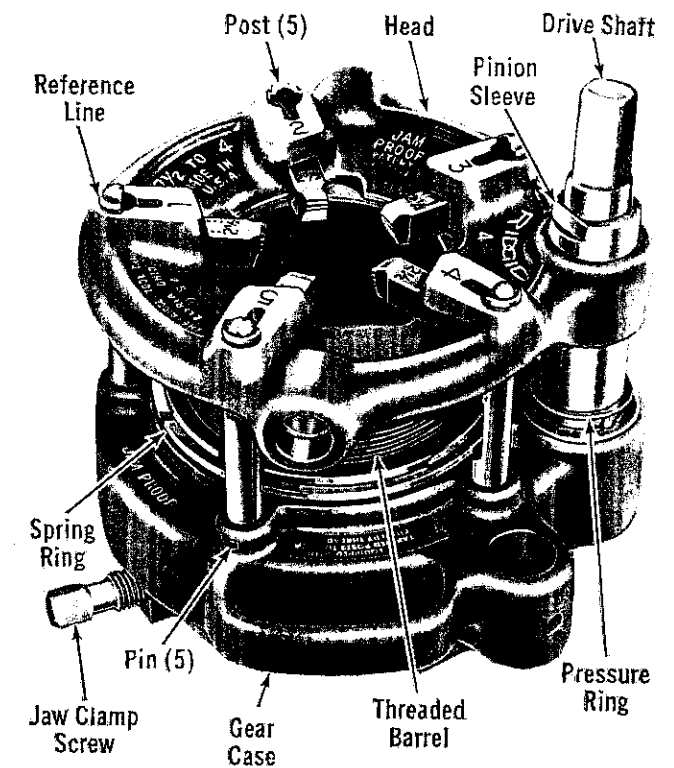

Figure 20. No. 4PJ Geared Threader with Drive Shaft Up.
6. 4PJ only - Release Foot Switch just before Die Head begins to press on Pressure Ring (Fig. 20) at base of Pinion Sleeve.
**Thread Size Adjustment Procedure (Fig. 20)**
### Changing Die Set (Fig. 20)